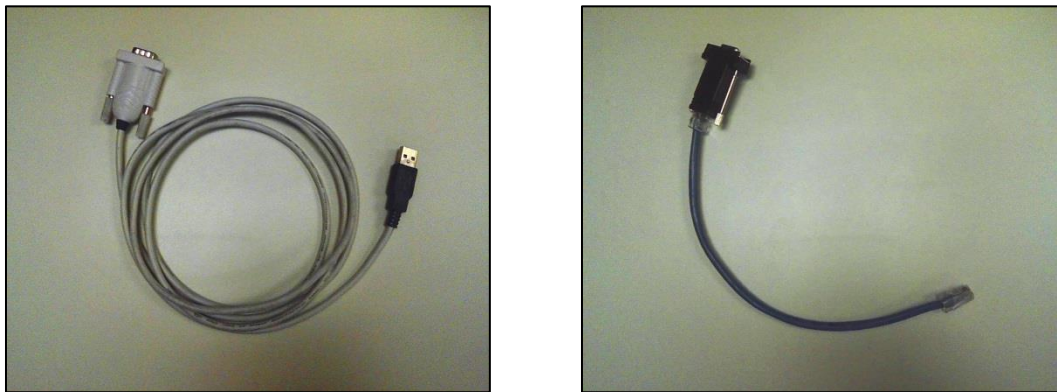

Figure 10 – USB-to-DB9 Cable (L) and RJ45-to-DB9 Adapter Cable (R)
1. Connect the USB-to-DB9 serial cable to the RJ45-to-DB9 adapter cable (Figure 10).